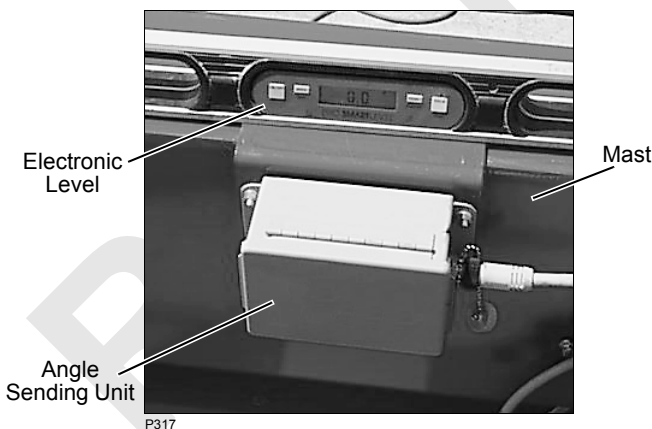

FIGURE 4-5
The mast angle sending unit (Figure 4-5) houses a pendulum-type 120° sensor (Figure 4-6) which sends an electric signal to the crane's programmable controller. The programmable controller converts the electric signal into an angle which can be monitored on the digital display in the operator's cab and used to control mast operation within the limits given in Table 4-2.
3. Place an electronic level on mast (Figure 4-5).